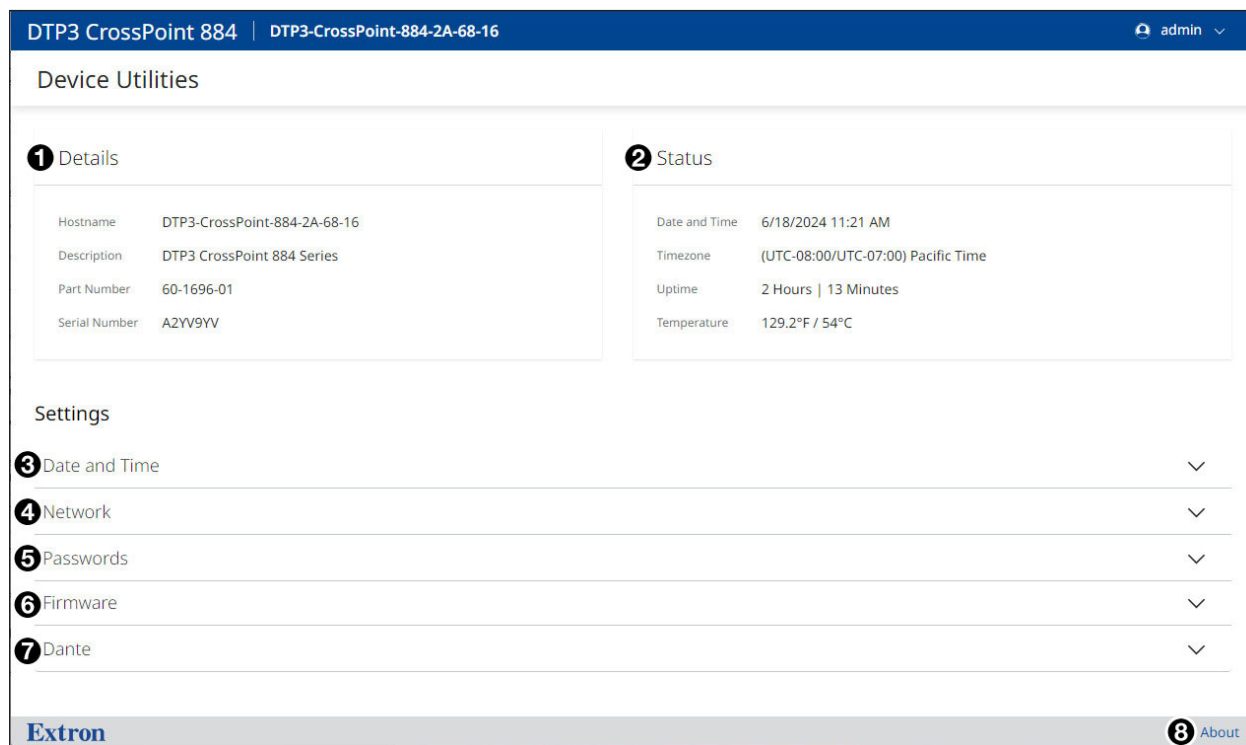

Figure 49. DTP3 CrossPoint Internal Web Page
7. Click the **SIGN IN** button. The internal web page opens (see figure 49).
The DTP3 CrossPoint internal web page (see figure 49) provides an overall, read-only view of the status of the switcher, with some editable fields for the following categories:
The Details panel (see figure 49, ❶ on page 103) displays the device name, a brief product description, the part number, and the serial number. The name can be changed in the Network Panel (see page 105).
In the Network panel (see figure 49, 4 on page 103), view the MAC address, edit the device name, set the IP address, subnet mask, and DNS server for your DTP3, and turn DHCP **On** and **Off**.
The Passwords panel (see figure 49, 6 on page 103) displays whether Admin and User passwords have been set and provides an option to set administrator or user passwords. It does not display the actual password.
The Firmware panel (see figure 49, 6 on page 103) displays the current firmware version and the date it was last updated. Update the firmware on the DTP3 CrossPoint from this panel (see Software Installation on page 86 to download the firmware files).